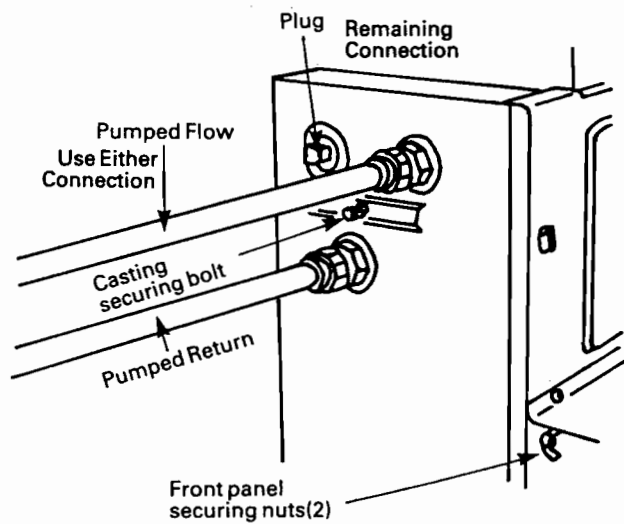

Fig. 6. Fully Pumped System
3. Remove the front panel (Fig. 6). Transfer the thermostat pocket blanking disc to the right hand hole.
7b Fully Pumped Systems The flow and return connections to the boiler to be made as follows (Fig. 6).